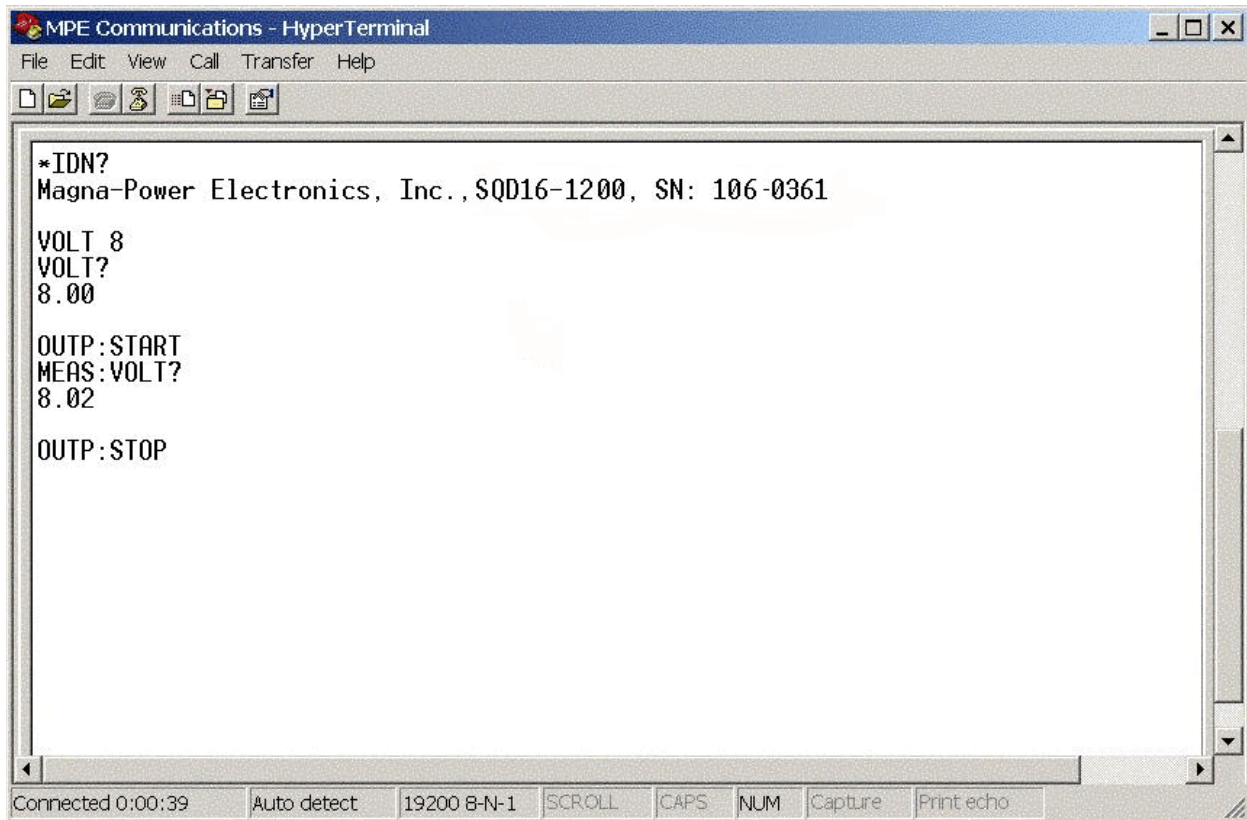

Figure 4.1 RS-232 Communications using Microsoft Windows (tm) HyperTerminal
7. As illustrated in figure 4.1, the returned data will display the following: “Magna-Power Electronics, Inc., SQD16-1200, SN: 106-0361” where the model and serial number may be different depending on the unit being tested.